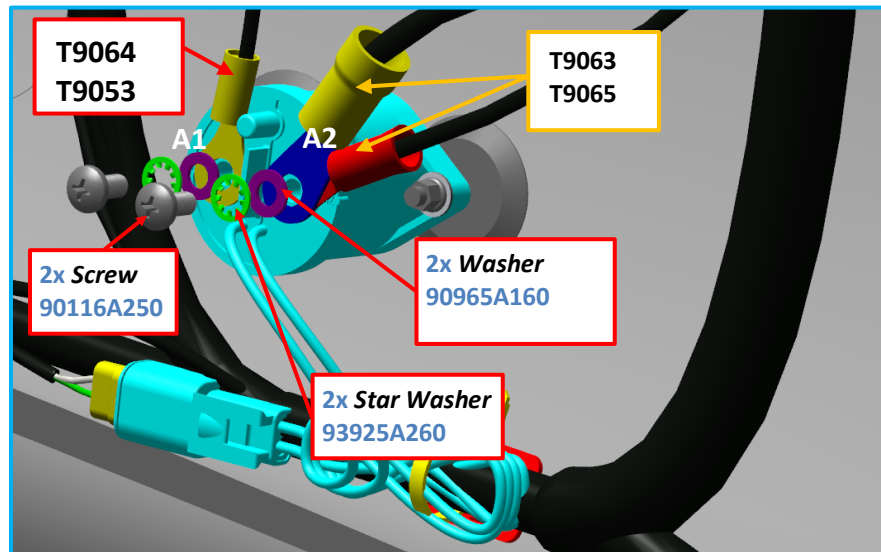

Figure 9 Master Solenoid hardware install
- i. Secure ring terminals **T9063** and **T9065** from the Main Wire Harness to the A2 side of master solenoid using noted hardware, see Figure 9.
- ii. Secure ring terminals **T9064** and **T9053** from the Main Wire Harness to the A1 side of master solenoid using noted hardware, see Figure 9.